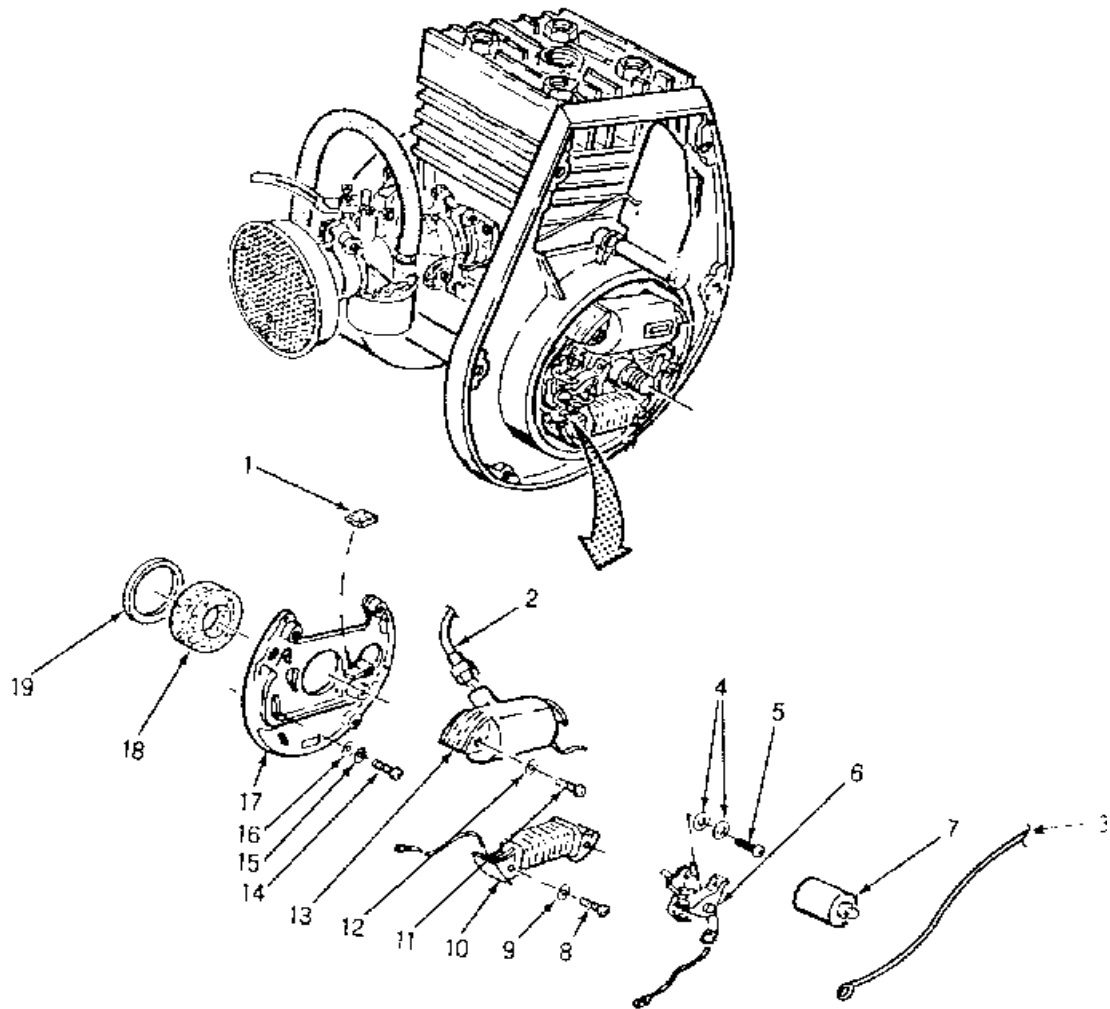

Figure 3, LDU Engine
- Assembly (Figure 3).
- Position felt washer (19) and ring (18) on engine shaft and install armature plate (17) with two washers (16), lock washers (15) and screws (14), finger tight.
- Install felt (1).
- Screw spark plug wire (2) into ignition coil receptacle by holding wire stationary and twisting coil CW until secure. Position sleeve on plug wire and coil connector.
- Install ignition coil (13) on mounting plate (17) with two screws (11) and washers (12). Adjust plug wire as necessary to reduce slack inside of engine.
- Install condenser (7). Condenser installation requires a socket, approximately equal in outer diameter as outer diameter of condenser. Position condenser on mounting hole (contact point up); position socket on top of condenser and tap lightly with a hammer until securely in place.
- Install power generating coil (10) as follows:
- Thread yellow output wire through cutout in plate (17) and pushes through grommet in the side of engine.
- Secure coil to armature plate (17) with two screws (8) and washers (9).
- Apply a small amount of grease provided with ignition points to felt (1) and install contact points (6), finger tight on plate (17) with screw (5) and washers (4).